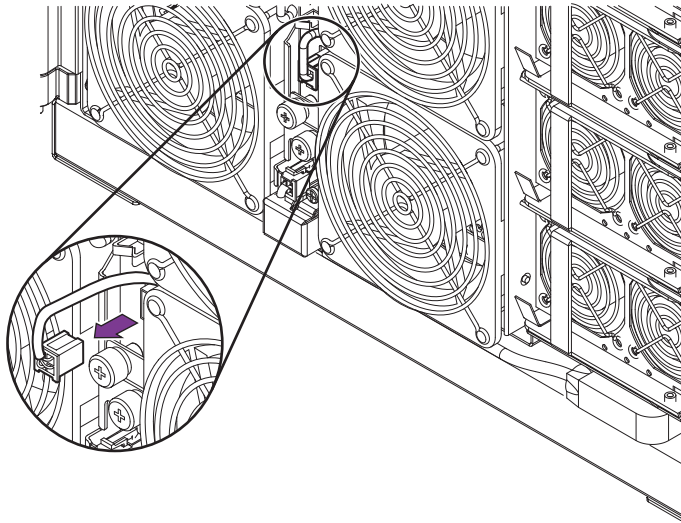

FIGURE 6-1 Disconnecting the Fan Power Connector
5. Disconnect the power connector (FIGURE 6-1).
5. Replace the power connector to the fan (FIGURE 6-1).